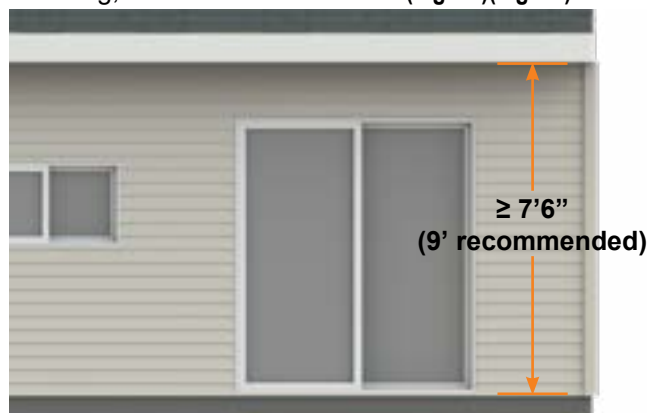
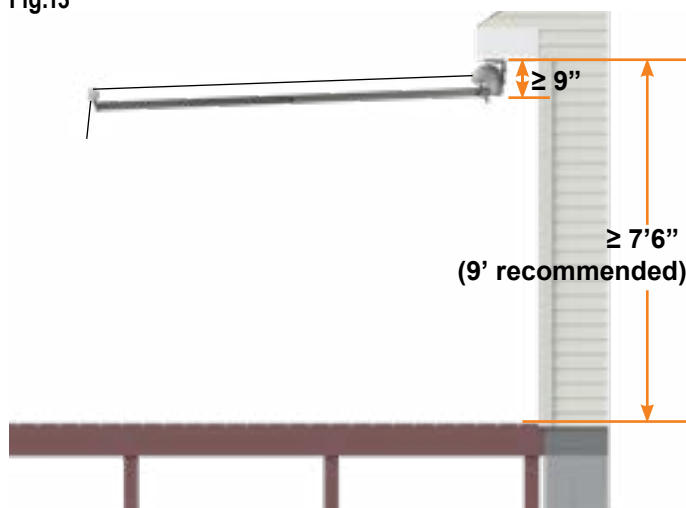

Fig.13
Fig.14
- Measure the height from ground to the underside of underhang/soffit intended for installation. There must be at least 7'6" from the ground/deck to the underside of the underhang/soffits to allow for headroom under the awning, but 9' is recommended (Fig. 13)(Fig. 14).